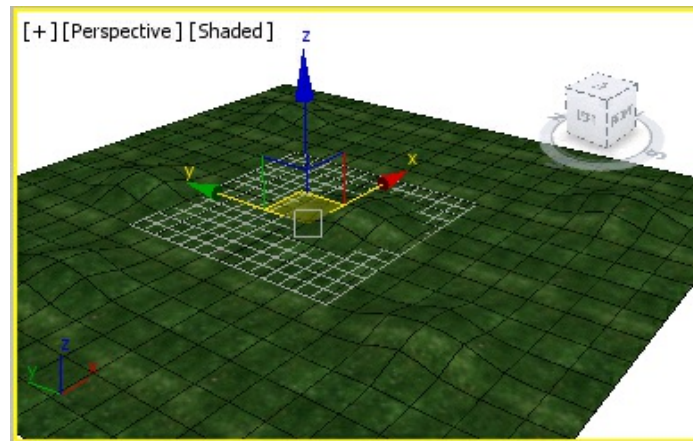

Figure 11-90 The plane after the map assigned to it in the Perspective viewport
12. Make sure that the plane is selected in the viewport. Next, choose the **Assign Material to Selection** tool from the **Material Editor** dialog box. Now, choose the **Show Shaded Material in Viewport** tool to display the map in the viewports. The map is assigned to the plane and displayed in the Perspective viewport, as shown in Figure 11-90. Now, close the **Material Editor** dialog box.